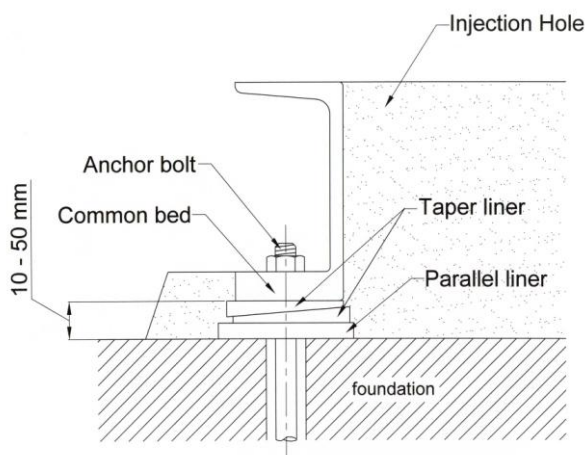

Fig. 7
- (1) After chipping the foundation, arrange one parallel liner and two taper liners on both side of the anchor bolt hole of the base as shown in Fig. 7.
- (2) Place the pump plus common bed on these liners and install the anchor bolt in the anchor bolt hole.